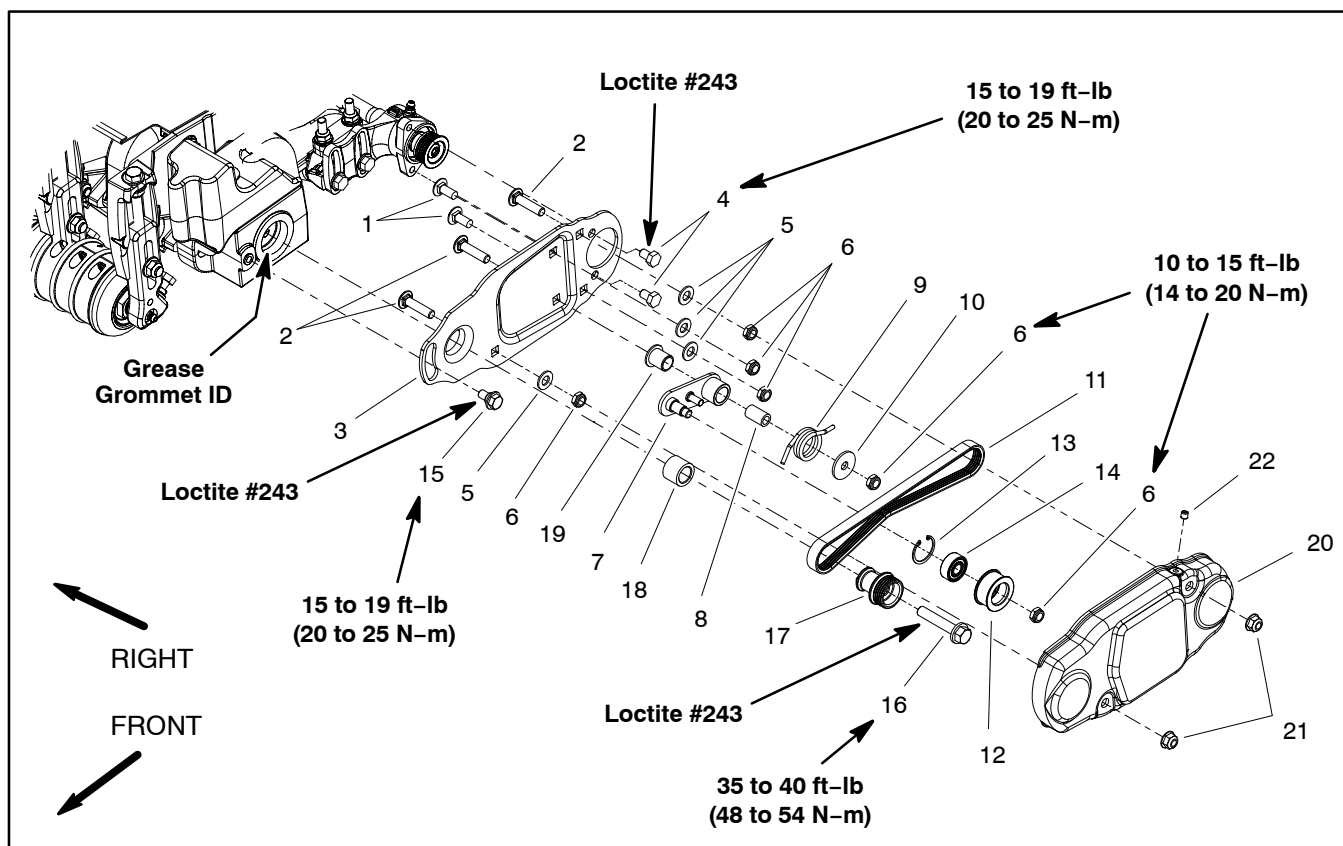
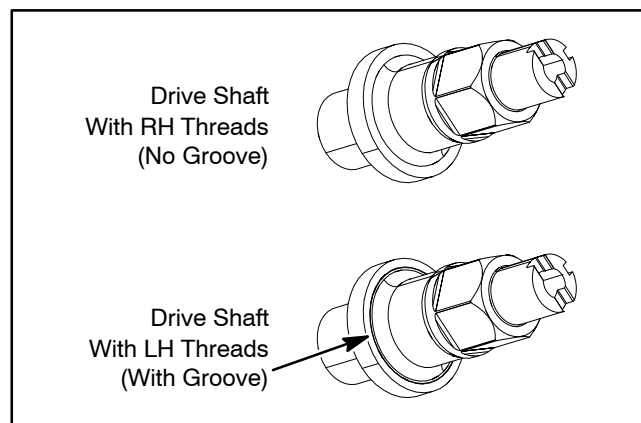

Figure 66
Figure 68
## Drive System Disassembly (Fig. 66)
2. Remove cover (item 20) to access rear roller brush drive components.
3. Remove roller brush drive components as necessary using Figure 66 as a guide.
**IMPORTANT:** If rear roller brush drive is on left side of cutting unit, drive shaft has left hand threads and can be identified by a groove on the flange. If the rear roller brush drive is on right side of cutting unit, drive shaft has right hand threads and does not have a groove on the flange (Fig. 68).
## Drive System Assembly (Fig. 66)
C. Position housing to cutting unit side plate and secure to cutting unit with two (2) socket head screws.
2. Assemble roller brush components using Figure 66 as a guide.
A. During assembly, apply Loctite #243 (or equivalent) to threads of fasteners and torque fasteners as shown in Figure 66.
C. Brush plate should be installed so that idler pulley assembly is toward the bottom of the plate. Also, the shoulder bolt (item 15) should not clamp the brush plate to the drive housing during assembly.
D. When installing drive pulley (item 17), make sure that tabs on pulley engage slot in drive shaft.
E. Idler arm (item 7) should be free to rotate after assembly to brush plate. Make sure that idler spring is installed so that it can rotate the idler arm and pulley and apply tension to the drive belt.